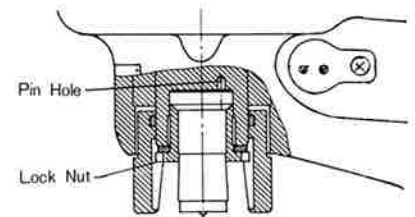

Fig. 7
- (1) Remove the lock nut, fix the punch so that the punch pin can be inserted into the pin hole on the ram. Tighten the lock nut with the spanner. (The pin hole on the ram is positioned on the right side as shown in Fig. 7. Accordingly, the punch pin must be positioned as in Fig. 8.)
- (2) Loosen the retaining screws on both sides of the lower jaw. Set the die, placing the face with hole of smaller diameter up.
- (3) Fit the  part of the jig to the punch edge, and side down the jig. Insert the  part of the jig into the die, while turning round the die. Then tighten the retaining screws and fix the die.